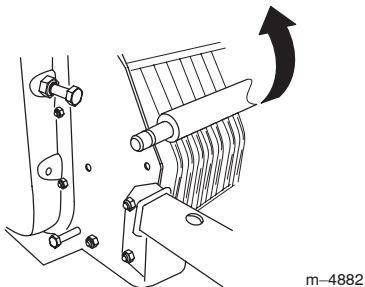

Figure 11
4. Open the tine cover (Fig. 11).